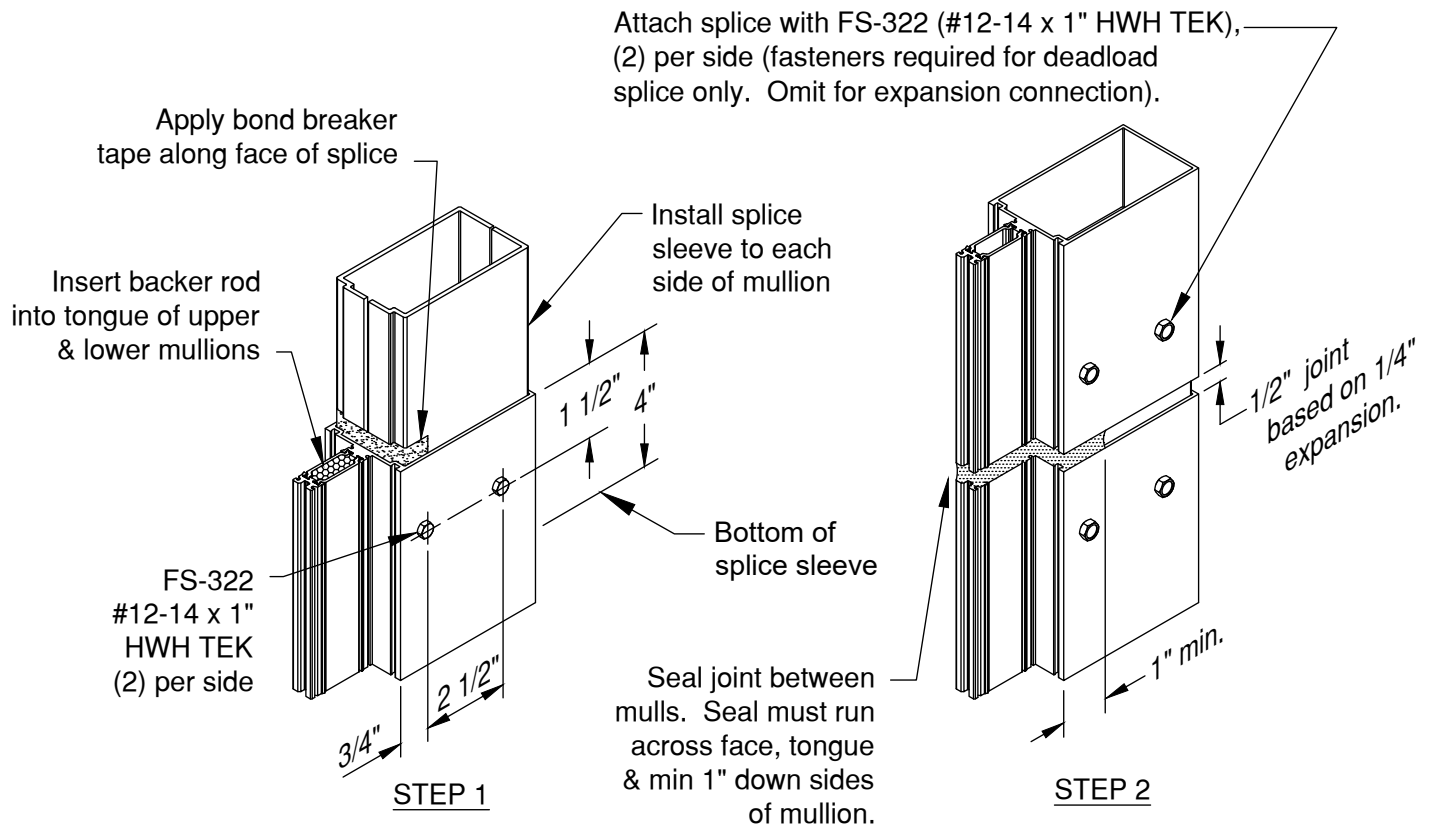

FIGURE 7
- 2.1.11 Install the next vertical above, temporarily shimming between verticals to maintain proper splice joints (refer to approved shop drawings). **SEE FIGURE 7.**